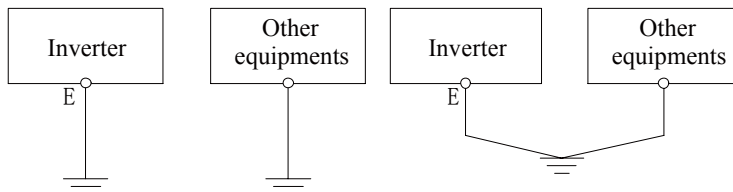

Fig.3-11 Dedicated Grounding Pole Diagram Fig.3-12 Common Grounding Pole Diagram
(1) Dedicated grounding pole (best), seen in Fig. 3-11. (2) Common grounding pole (available), seen in Fig.3-12.